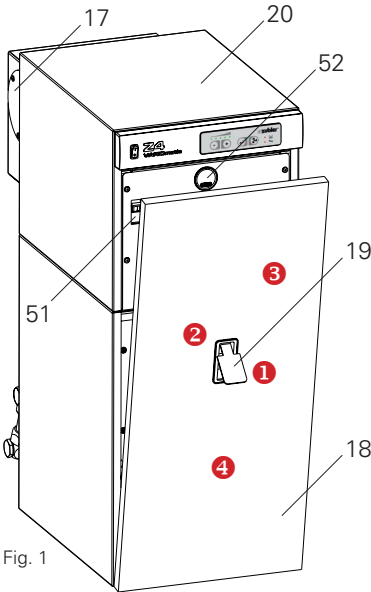

Fig. 1
Transporting and positioning the suction unit is much easier with the door (18) removed. The door can be removed as shown in Fig.1:
- 1 lift the latch of closure (19)
- 3 swivel the door (18) approx. 10° to the front.
- 4 now you can remove the door (18) completely by lifting it slightly.
- The exhaust can be moved to the left or bottom of the motor silencer (55) by swapping the exhaust cover (17) and the exhaust port (56). Fig. 1.